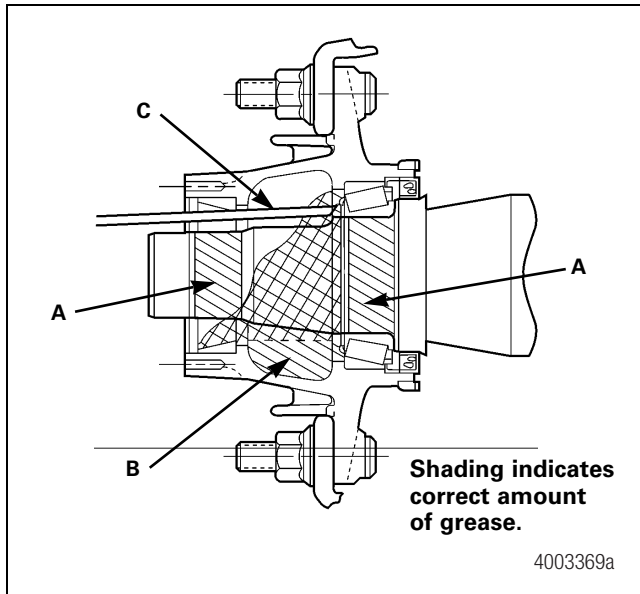

Figure 14.7
2. Apply a light coat of synthetic grease to the spindle bearing journals. Refer to "A" in Figure 14.7.
4. Fill the hub cavity with the approved grease to the outer cup's smallest diameter. Refer to "B" in Figure 14.7.
5. At the top of the spindle and as far back as possible, pump additional synthetic grease until it appears that the grease will run out. Install the outer bearing cone quickly. Refer to "C" in Figure 14.7.
6. The hub cavity will be filled approximately 1/3 full with grease, from the four to the eight o'clock positions. This will involve installation of approximately 1.5 pounds of grease. However, different hub designs may require that either more or less grease be installed. Figure 14.7.